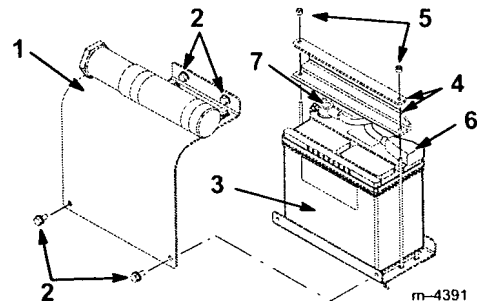

Figure 3
1. Remove the four bolts securing the battery cover and remove the cover (Fig. 3)
2. Remove the nuts and bars securing the battery (Fig. 3).
10. Install the battery onto its platform (Fig. 3).
11. Secure the battery in the chassis with the bars and nuts removed previously (Fig. 3).
12. Connect the positive (red) cable to the positive (+) battery post (Fig. 3). Slide the rubber cover over the battery post.
13. Connect the negative (black) cable to the negative (–) battery post (Fig. 3).
14. Install the battery cover (Fig. 3).